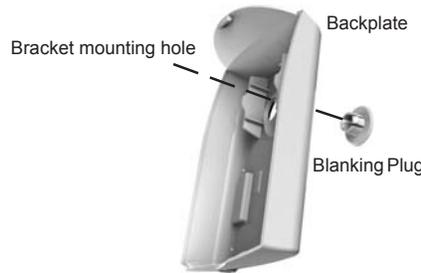

Figure 3. Prep for Wall Mounting (No Bracket)
**2. MOUNTING** - To mount directly onto a wall WITHOUT the swivel bracket, start by inserting the supplied blanking plug into bracket mounting hole. This is very important! See Figure 3. Next, locate the 9 dimple marks on the inside of the backplate. Choose 2 (or more) of these for use as the screw mounting holes. Drill out the necessary holes using 1/8" bit. To prevent air or contaminants from getting into the sensor, DO NOT leave any exposed or unused holes!